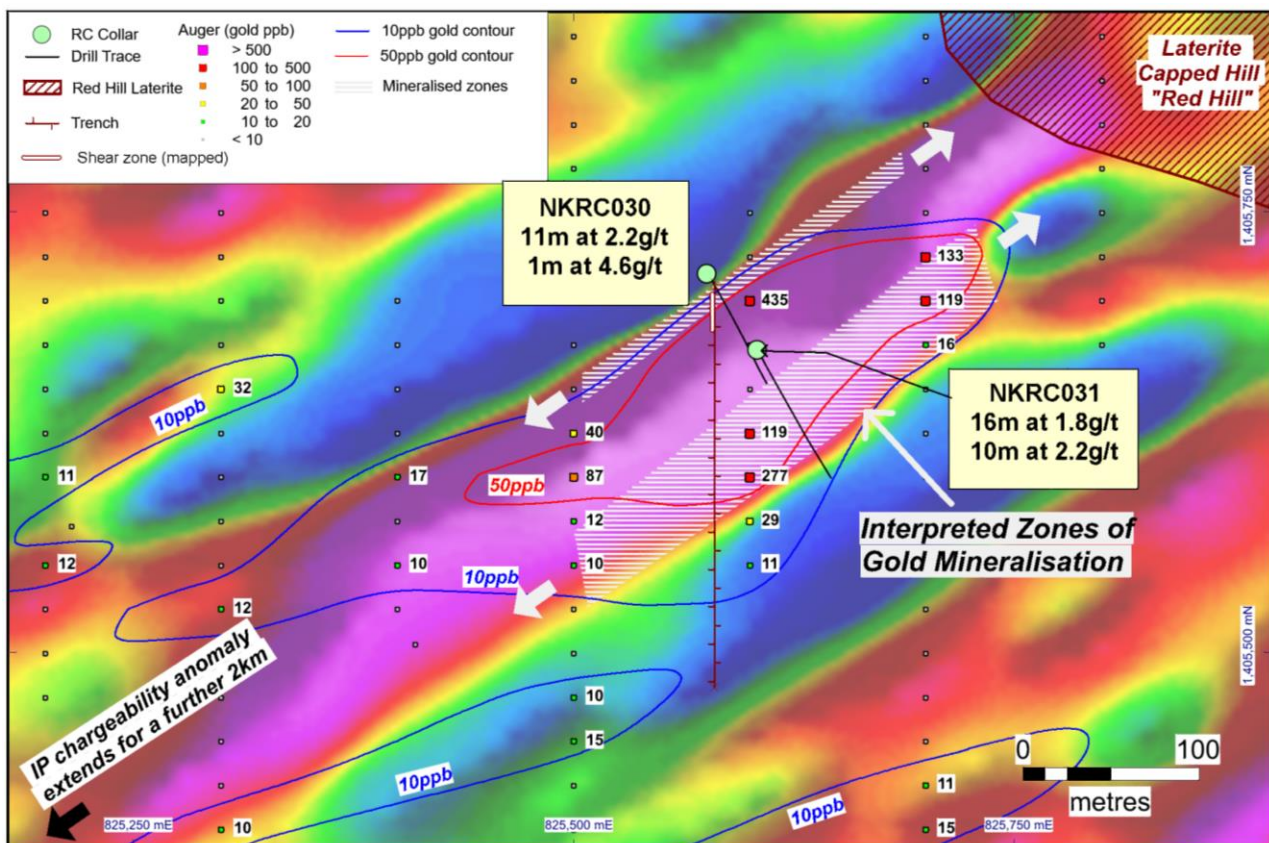

Figure 1. Northern portion of the Red Hill prospect area. RC drill holes and auger holes over the prospective IP chargeability high anomaly.
The latest assay results are for 16 RC holes drilled to test gold-in-auger and geophysical target areas southwest of the Kouri Mineral Resource area (NKRC016 - NKRC031). Drill hole location details and significant gold intercepts for these holes are depicted in Figures 1 to 4 and Tables 1 and 2. Further details regarding the results are set out below.
Previous auger drilling around Red Hill defined a 600m long x 150m wide gold-in-auger anomaly, with results up to 435 ppb gold, which is coincident with a **3km** long northeast-trending IP chargeability high anomaly and a prominent bend in an extensive east-west trending magnetic high anomaly (Figures 1, 3 and 4). Approximately 1km to the west-southwest of Red Hill, along the same magnetic anomaly, previous drilling by Golden Rim intersected 4m at 9.2 g/t gold in hole NKRC005. The orientation of the IP chargeability high anomaly is oblique to the surrounding chargeability anomalies and may be associated with a cross-cutting structure.
- **16m at 1.8 g/t gold** from 29m and **10m at 2.2g/t gold** from 52m in NKRC031 (Figures 1 and 2; Photographs 2 to 4).
The extensive IP chargeability high anomaly is of particular interest as similar IP anomalies are located in the Mineral Resource area and are believed to be associated with pyrite mineralisation coinciding with gold mineralisation (Figure 1). There are many such IP chargeability high anomalies within Kouri licence area which remain unexplored to date (Figure 3).
A historical north-south trending trench (230m long) is located at Red Hill, 20m southwest of the drill holes (Figure 1 and Photograph 1). While the spoil heaps beside the trench have abundant quartz vein float, Golden Rim has no record of whether the trench was ever sampled and it is largely collapsed. However, a 22m wide zone of highly altered and sheared rock is evident in the northern end of the trench that is believed to be the strike extent of some weak gold mineralisation intersected in the top of hole NKRC030.